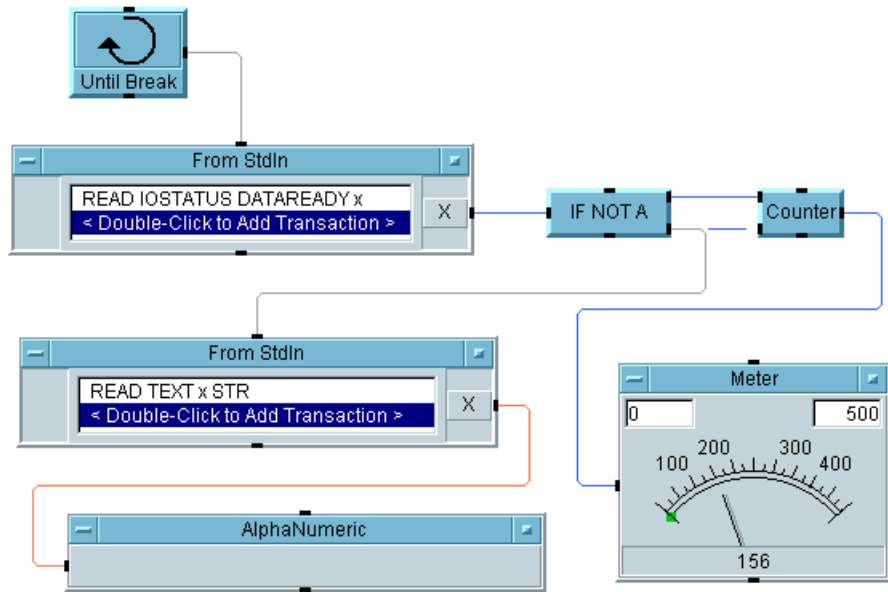

Figure 4-10. Using `READ IOSTATUS DATAREADY` for a Non-Blocking Read
Figure 4-10 shows a program where `READ IOSTATUS DATAREADY x` is used to detect data on the StdIn pipe.
The program in Figure 4-10 shows the use of a `READ IOSTATUS DATAREADY` transaction in `From StdIn`. The transaction returns a zero (0) if no data is present on the `stdin` pipe. If data is present, a one (1) is returned. The `If/Then/Else` is used to test the returned value of the `READ IOSTATUS DATAREADY` transaction. If the result is 1, the second `From StdIn` is allowed to execute, reading the data typed into the VEE start-up terminal window.